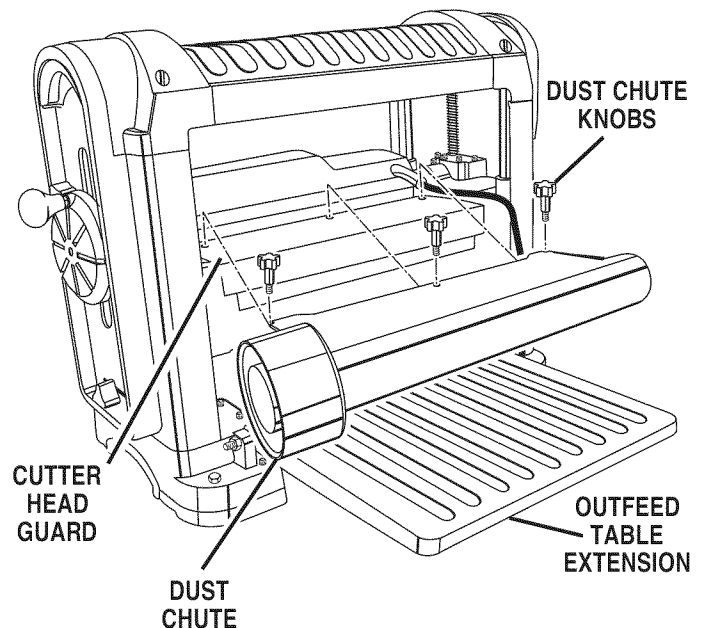

Fig. 10
See Figure 10.
- From the back of the machine, locate the dust chute knobs on the cutter head assembly. See Figure 10. Turning counterclockwise, loosen each screw.